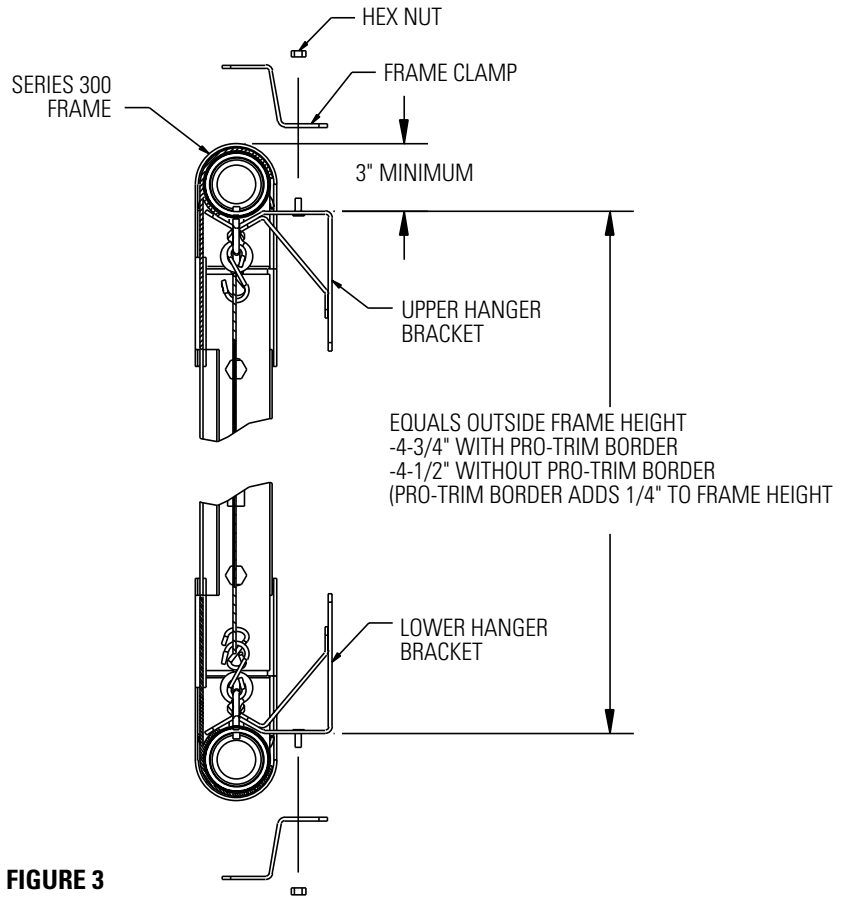

FIGURE 3
- You will need at least 3" above the hanger bracket to mount the Series 300 frame (see Figure 3).
2. Line up the lower hanger bracket with the mark and secure it to the wall. Refer to Figure 3.
3. Remove the frame clamp from the hanger brackets and position the Series 300 frame on the hanger brackets as shown in Figure 3.